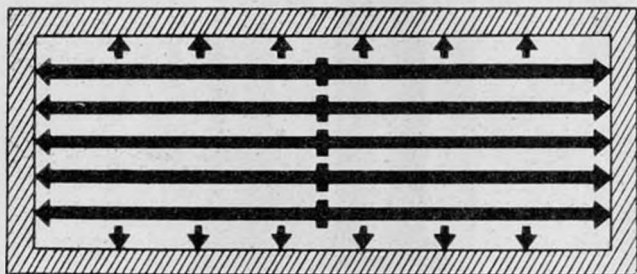
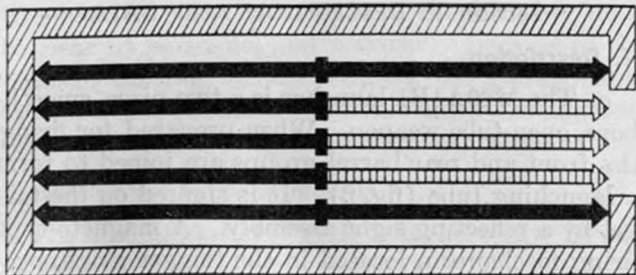

Figure 4. Closed tube.
Figure 5. Open tube.
a. When a gas is compressed in a closed tube, the pressure in one direction is balanced by an equal pressure in the opposite direction (fig. 4). An opening at one end of the tube reduces the area against which the pressure is applied (fig. 5). When pressure is maintained inside the rocket launcher tube, the total pressure against the closed, or muzzle end is greater than the total pressure against the reduced area of the open, or breech end. Therefore, an unbalanced condition of pressure results that forces the rocket motor tube forward and in the direction of the closed, or muzzle, end.